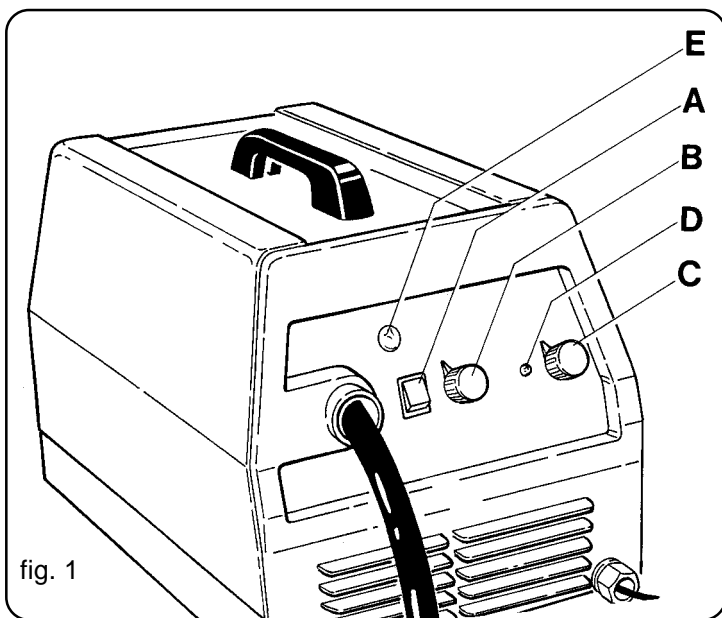

fig. 1
- turn on the machine by positioning the "A" switch (fig. 1) to ON
- Position the knob "C" (fig. 1) to continuous position and adjust the welding current by means of the knob "B" (fig. 1), bearing in mind that 20-30 A per mm. of thickness are required for carbon steels and stainless steels.
- Adjust the peak current by means of the knob "B" (fig. 1) (peak time is fixed)
- set the time of base current from 0 to 2.5 sec (max) by means of the knob "C" (fig. 1) (the base current is fixed at 5 Amperes)
To avoid destroying the electrode tip during starting with high currents, a special system has been conceived that allows the arc to start at the lowest current. This system consists of a time delay of 1.5 seconds between the moment the torch button is pressed and the moment when the welder delivers the current which was preset through the knob "B" (fig. 1).
Note: the mode indicator (**D** in fig. 1) lights up whenever continuous TIG is selected and it follows the impulses in TIG pulsed mode.
CAUSES: - the thermostat has tripped; pilot light **E** (fig. 1) turned on
- defecting regulation potentiometer **B** (fig. 1)
- DEFECT: - *Welding current not controllable by the potentiometer "B" (fig. 1)*